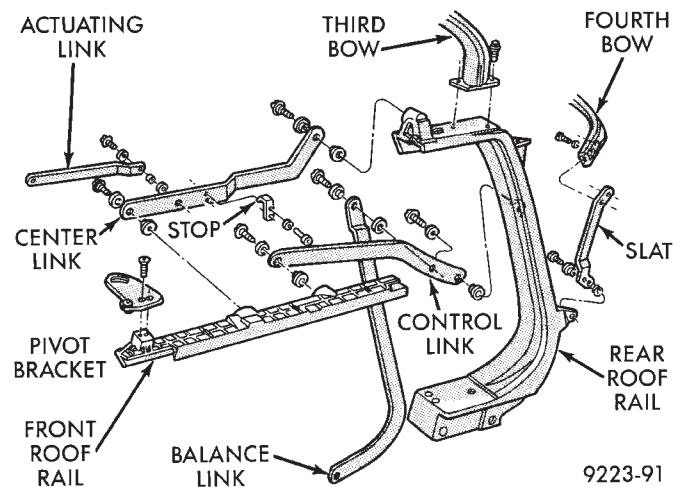
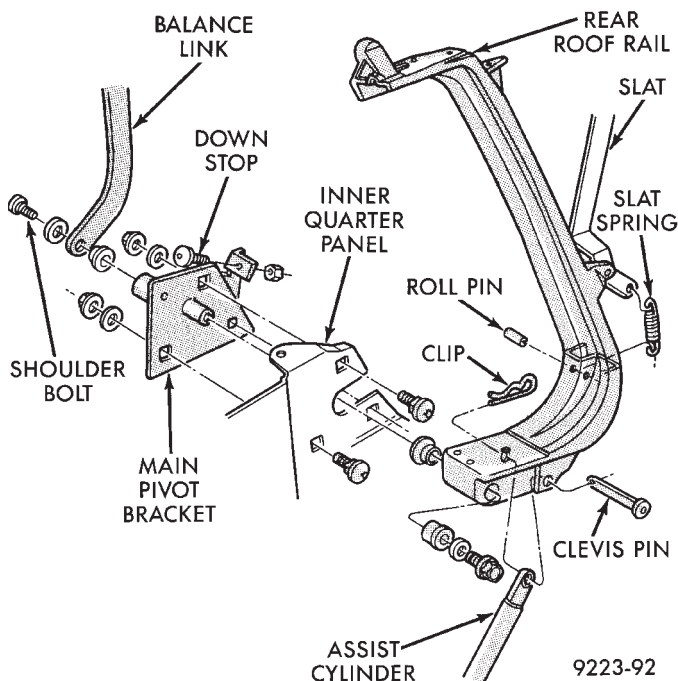

Fig. 12 Roof Rails and Linkage
Fig. 13 Rear Roof Rail
(1) Lower rear window glass, position glass flat on the bottom of the sling well.
(2) Lower convertible top halfway down.
(3) Remove pivot bolts and bushings holding fourth roof bow slat to rear roof rail (Fig. 12).
(4) Remove tension spring from between rear roof rail and fourth roof bow slat (Fig. 13).
(5) Remove shoulder bolts holding fourth roof bow to slat.
(6) Separate bow from slats (Fig. 12).
(7) Allow roof bow to drop downward.
(8) Tip bow toward interior of vehicle and away from top cover.
(9) Lower convertible top enough to allow to loosen around fourth roof bow.
(10) Locate feature strip insert at end of bow. Slide feature strip to the side and separate strip from bow. Do not damage foam filler strips attached to fourth roof bow.
(11) Separate top cover from fourth roof bow.
(12) Remove rivets holding rear window retainer to fourth roof bow.
(13) Separate retainer from bow.
(14) Mark location of stay pads and rear window zipper apron to aid installation.
(15) Remove staples holding stay pads to fourth roof bow.
(16) Remove staples holding rear window zipper apron to fourth roof bow.
REMOVAL (FIG. 12)
REMOVAL (FIG. 13)